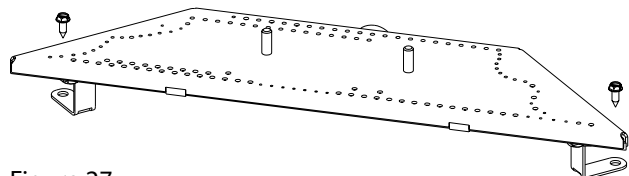

Figure 27.
7. Lift out the Burner Plate with removal of two screws from the firebox floor. See fig. 27.